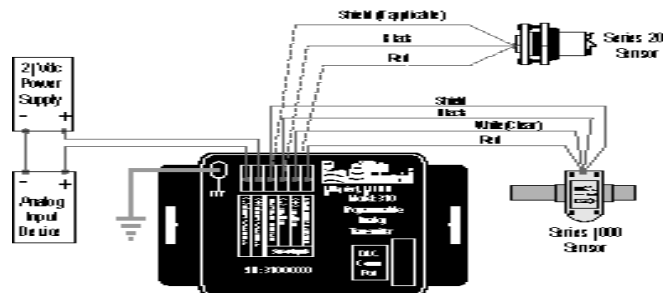

Figure 4: Model 310 Wiring to Analog Loop and Series 200 or Series 4000
2. As shown in figure 4, connect loop power supply positive (+) to Model 310 terminal marked 4-20mA loop (+).